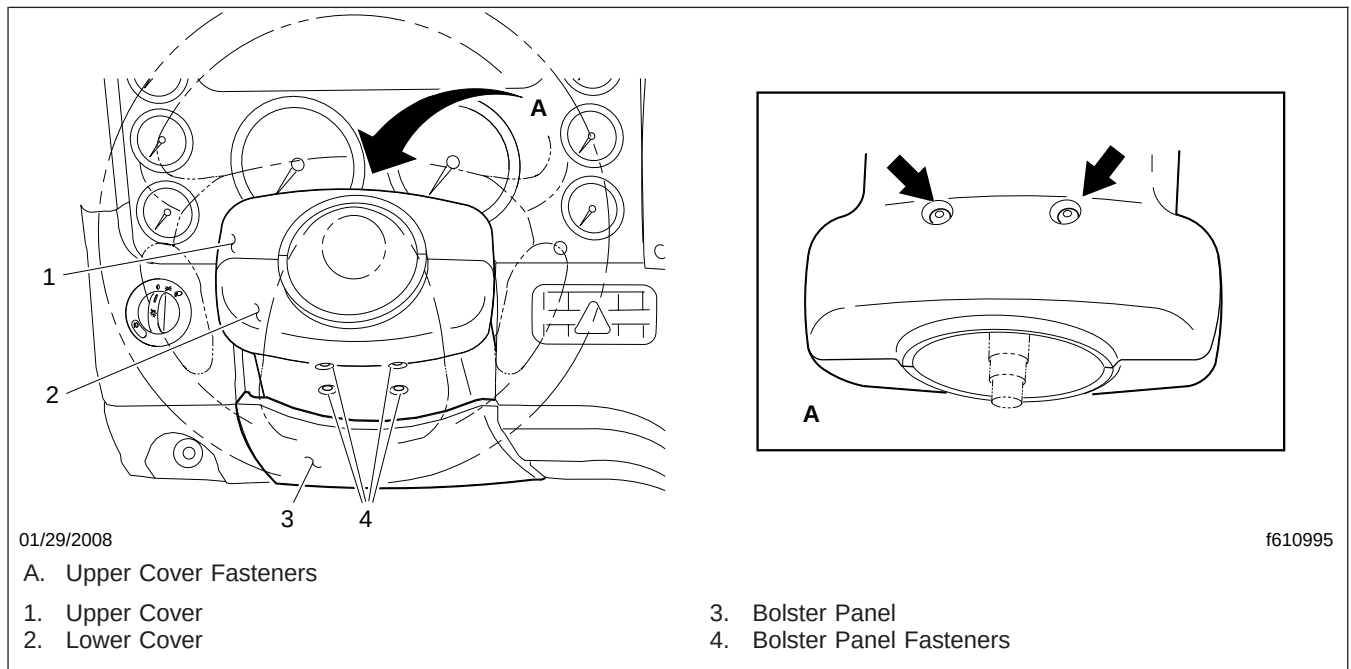

Fig. 1, Steering Column Cover Panels
3. Remove the upper and lower cover panels from the steering column. See Fig. 1.
3. Install the upper and lower cover panels on the steering column. See Fig. 1.